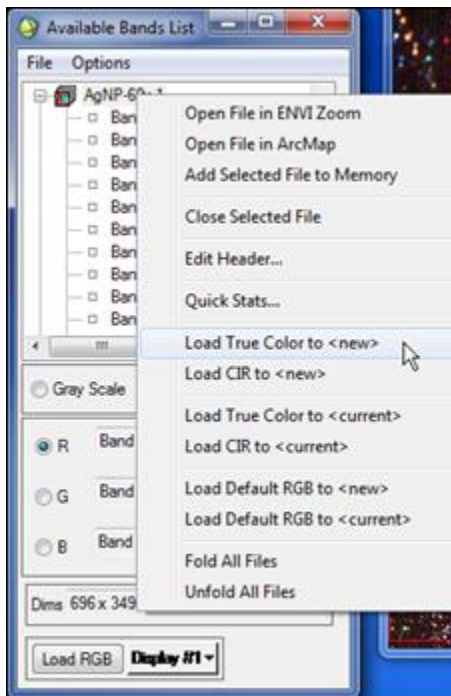

Figure 2.5a. Load True Color menu bar
- The newly displayed image will revert to the default bands if they are not already being used (Figure 2.5a).